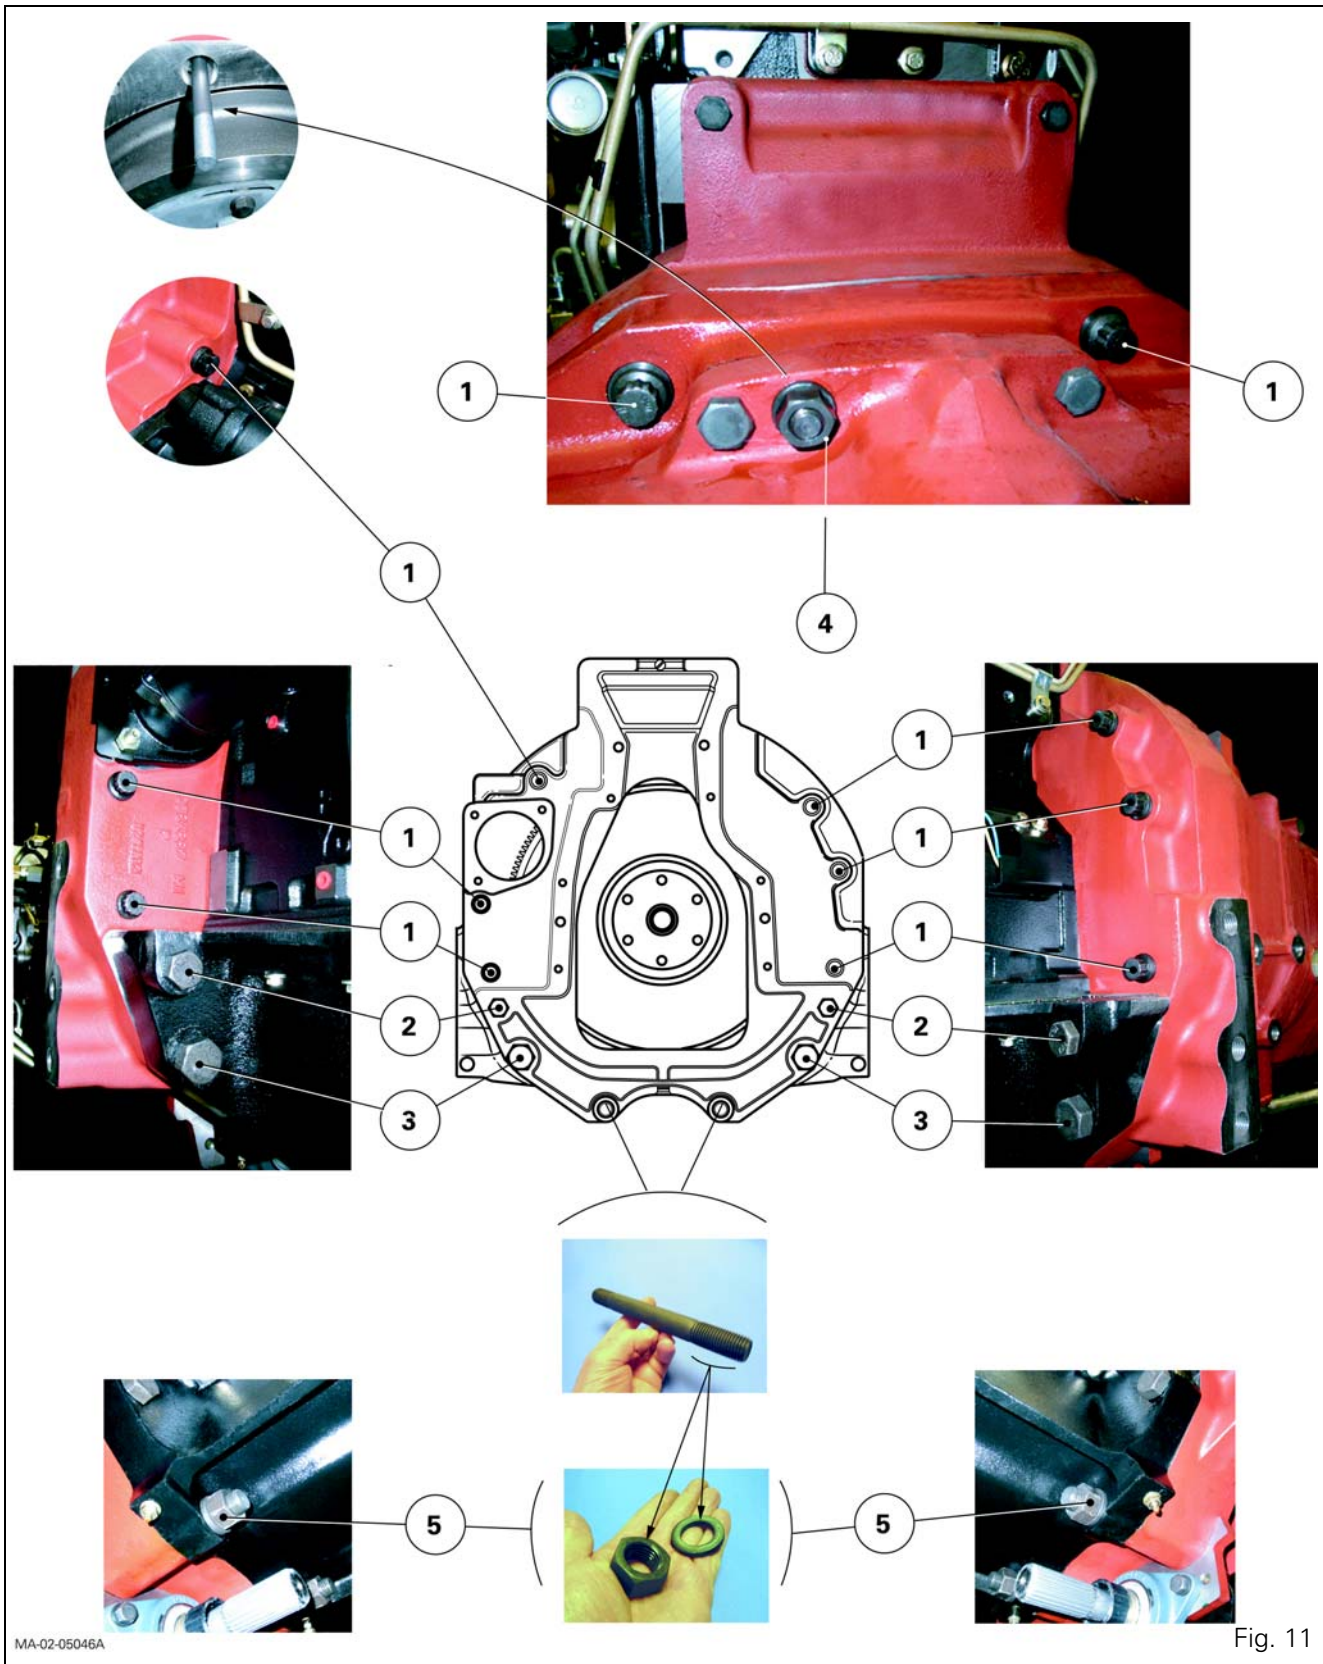

Fig. 11
- 28.** When the elements are joined, remove the guide studs (if fitted). Lightly grease the thread of the screws and nuts with Loctite 270 or equivalent and refit according to the marks made at disassembly. Tighten to the required torques (Fig. 11)
- Screw (1): 240 - 320 Nm.
- Screw (2): 240 - 320 Nm.
- Screw (3): 630 - 840 Nm.
- Nuts (4): 100 - 130 Nm.
- Nuts (5): 630 - 840 Nm.